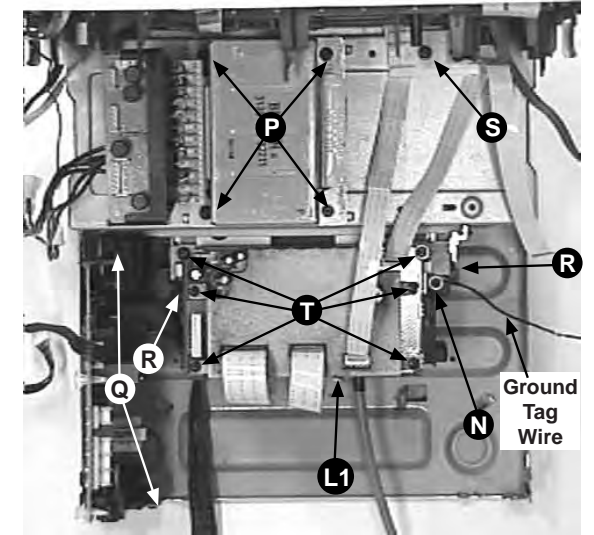

Figure 16
Note: It may be necessary to release screws S (see figure 16) if the flex cables to the front are too tight.
- d) Loosen 4 screws P to remove the Mains Transformer (pos 5280) as shown in figure 16.
- Remove 1 screw N mounting the ground tag wire, Shield EMC DAC (pos 205) and Bracket Mound DVD (pos 197) to Plate Bottom (pos 236) will free the assembly completely (see figure 16).
- Loosen 2 screws Q and unhook H2 (see figure 16 & 17) to remove the Mains Board (pos 1106-A) so that the Standby Transformer will not obstruct the sliding movement of the DVD / DAC Module assembly.
- Loosen 2 screws R (see figure 16), lift the rear portion of the DVD Module / DAC Module slightly to clear the stopper and slide it out towards the rear as shown figure 17.
- Loosen 6 screws T (see figure 16) to separate the DAC Module.
- Release the lug L1 by twisting and bend open the Shield EMC DAC cover (pos 205) to remove the DAC Board (pos 1102-C).